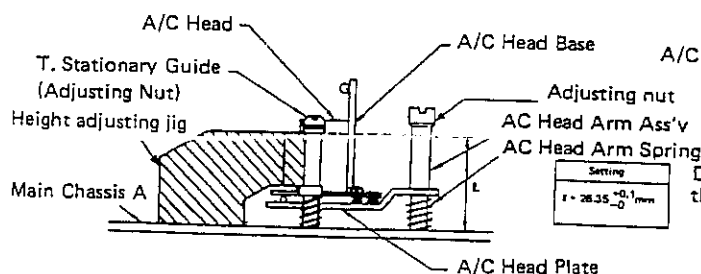

Figure 22.
1. Set the guide height adjustment jig on the main chassis A, as shown in figure 22.